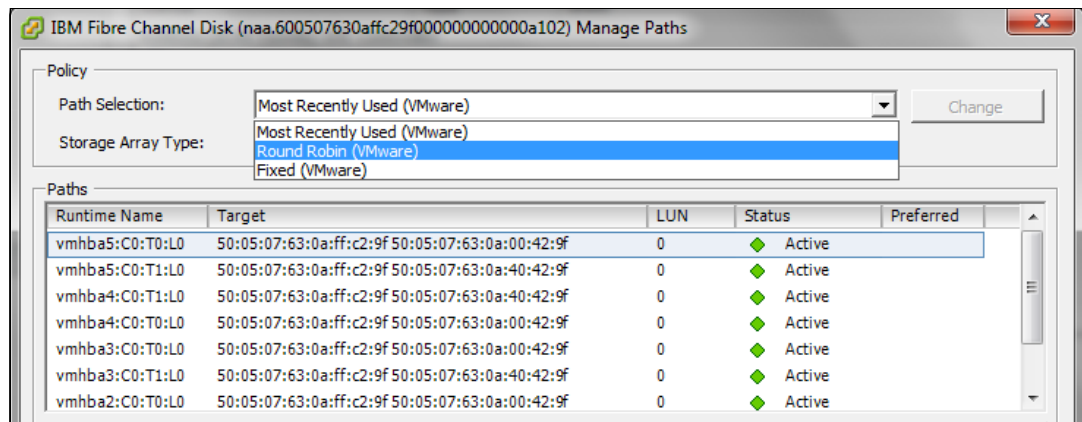

Figure 7-44 Change path selection plug-in
2. From the drop-down list at the top, select **Round Robin (VMware)** and click **Change** (Figure 7-44).